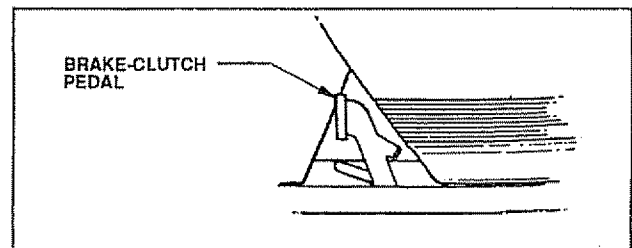

Fig. 30A
TO ADJUST TRACTOR DRIVE BELT (See Figs. 30A and 30B)
- The brake-clutch pedal should appear as shown in Fig. 30A when in the fully released position. If not, then the following adjustment is necessary.
- The brake-clutch pedal should appear as in Fig. 30A on page 27, when in the fully released position. If not, then the following adjustment is necessary.